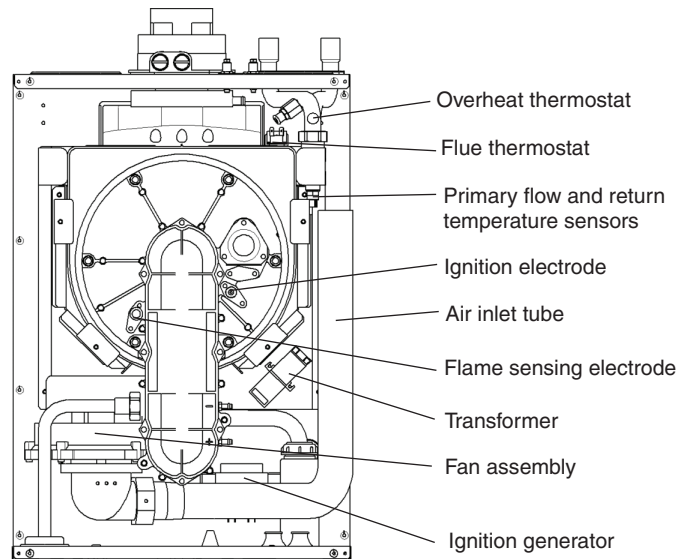

Fig. 8.1
8.6 FAN - Fig. 8.1
8.7 IGNITION GENERATOR - Fig. 8.1
8.8 TRANSFORMER - Fig. 8.1
8.9 OVERHEAT THERMOSTAT - Fig. 8.1
8.10 FLUE THERMOSTAT - Fig. 8.1
8.18 TEMPERATURE SENSORS - Refer to Fig. 8.1
3. The primary sensors are positioned on the right hand side of the heat exchanger (see Fig. 8.1), flow at the front and return at the rear. Disconnect the wiring and unscrew the sensor using a 13 mm A/F socket spanner, (access to the return sensor will be improved by removing the right side panel).